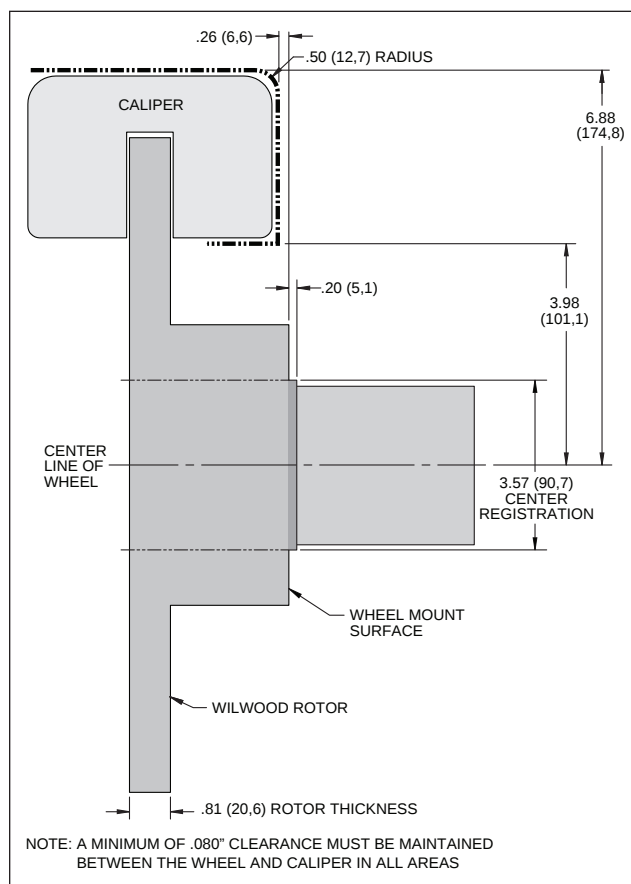

Figure 2. Wheel Clearance Diagram
- Review the Wheel Clearance Diagram (Figure 2, page 3) to verify that there is adequate clearance with the wheels you will be using with the installation.
• Verify your wheel clearance using Figure 2.
• **CAUTION:** Wheel fitment to OEM hub interference must be checked. There is a 3.57" diameter step on the hub face that was used to register the old brake drum (Figure 2). Be sure your wheel fits flush against the hub face. If the step interferes, you will need to use a wheel spacer (customer supplied) to clear the step.
- Temporarily install the wheel and torque the lug nuts to the manufacturer's specification. Ensure that the wheel rotates freely without any interference. **CAUTION:** Wheel fitment to OEM hub interference must be checked. There is a 3.57" diameter step on the hub face that was used to register the old brake drum (Figure 2). Be sure your wheel fits flush against the hub face. If the step interferes, you will need to use a wheel spacer (customer supplied) to clear the step.
- **NOTE:** OEM rubber brake hoses generally cannot be adapted to Wilwood calipers. The caliper inlet fitting is a 1/8-27 NPT. Install Wilwood's stainless steel braided flexline hose kit (14), P/N 220-13319 included with this kit, Photo 9. **Carefully route hoses to prevent contact with moving suspension, brake or wheel components.** **NOTE:** Wilwood hose kits are designed for use in many different vehicle applications and it is the installer's responsibility to properly route and ensure adequate clearance and retention for brake hose components.